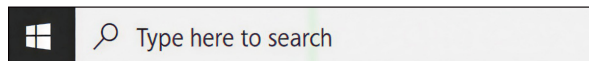

Figure 7.1
- (ii) Verify the IP address of the PC: Enter cmd in the search box (as shown in Figure 7.1), open a command window, directly ping the IP address of the Robotic Arm entering the command line: ping 192.168.1.xxx which can send and receive data packets successfully (as shown in Figure 7.2);